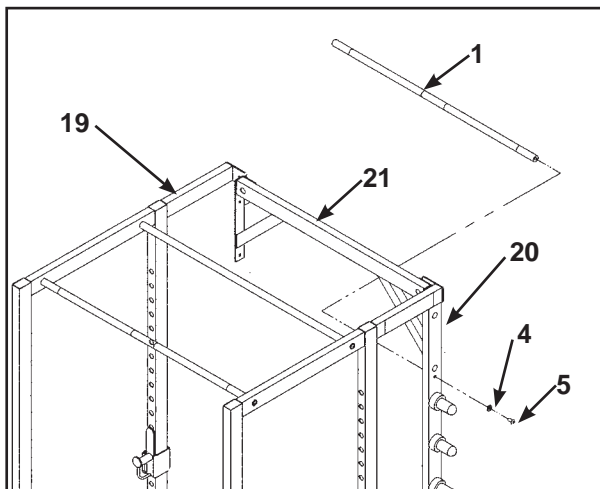

Figure 11
- J. Secure knurled support bar (#1) using two washers .50 (#4) and two BHSCS .50-13 x 1.00 (#5). See Figure 11.